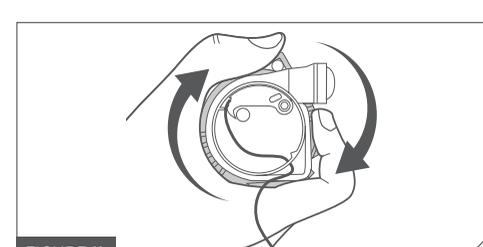

FIGURE 11
16. Tighten the black locking ring by turning it clockwise to the right, behind the yellow cap until it clicks (Fig. 11).